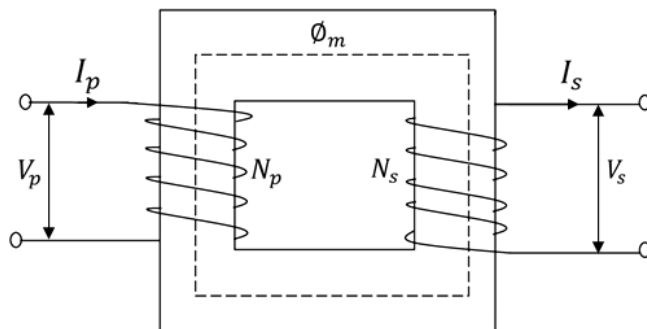

Figure B4(c) / Rajah B4(c)
- (c) An iron core transformer that has two windings is shown in Figure B4(c). The transformer's parameters are as follows: